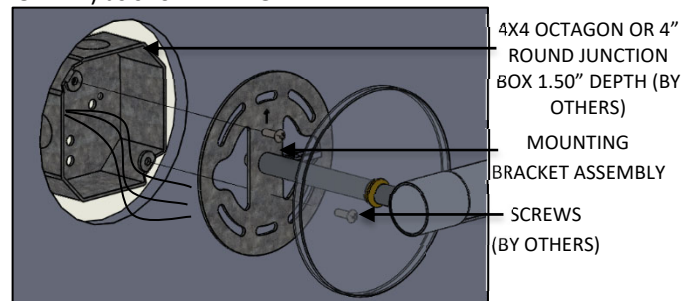

FIG. 12 – MOUNTING BRACKET ASSEMBLY INSTALLATION
2. Attach MOUNTING BRACKET TO JUNCTION BOX (BY OTHER) as shown in FIG.12.